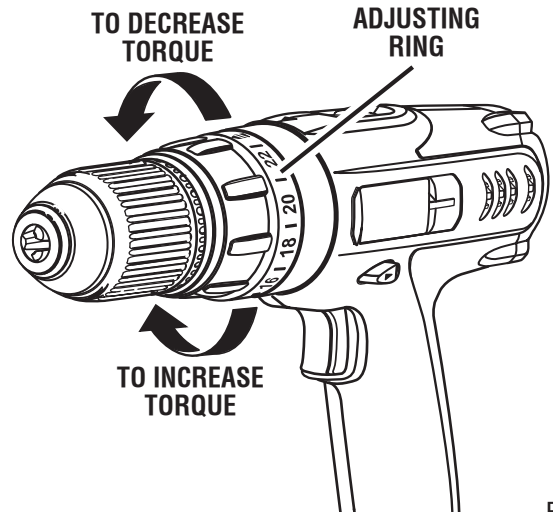

Fig. 11
- Identify the twenty four torque indicator settings located on the front of the drill. *See Figure 11.*